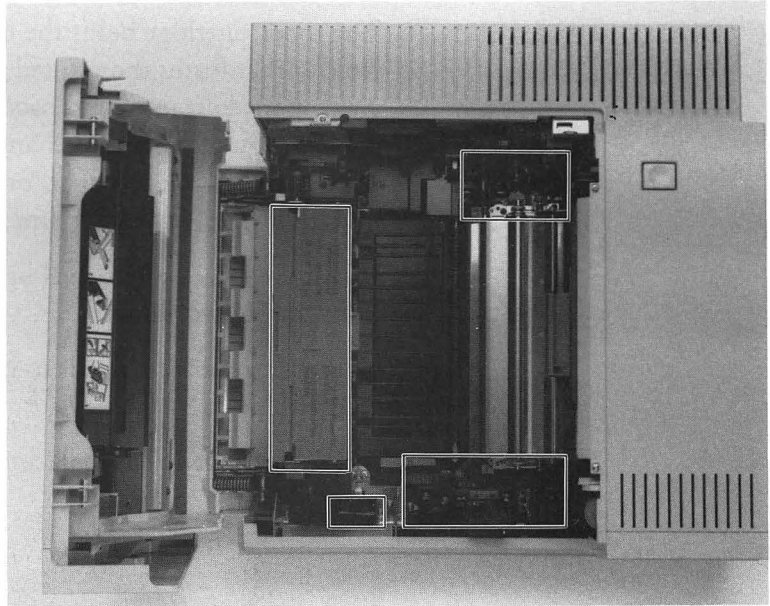

Figure 6-2 Exposed gears and electrical contacts
- Don't touch the exposed gears or electrical contacts in the boxed areas of Figure 6-2.